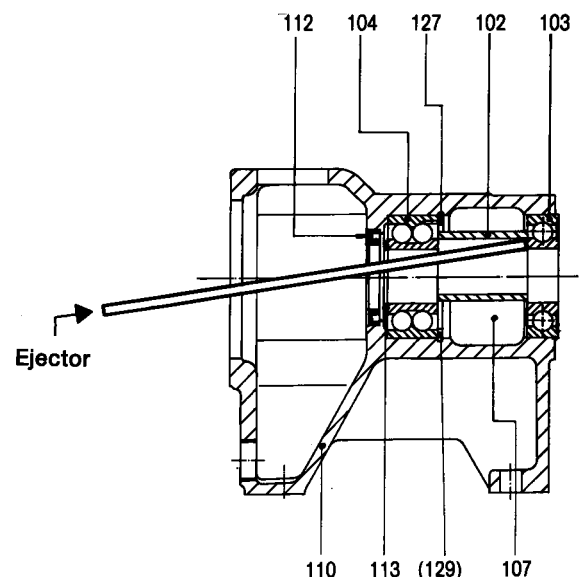

Figure 6: Dismounting the bearings.
- Radially displace spacer sleeve (102), and by means of an appropriate tool (ejector), drive groove ball bearing (103) out of the bearing bracket (110) (please refer to Figure 6 below).